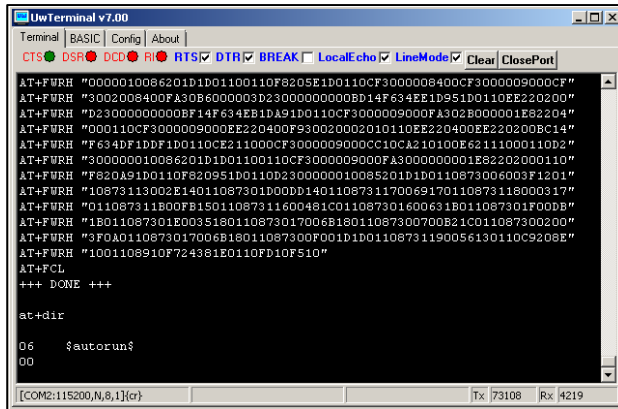

Figure 9: Compiled and downloaded application
- Click **Open**. The *smart*BASIC application is now compiled and downloaded to the module (Figure 9).